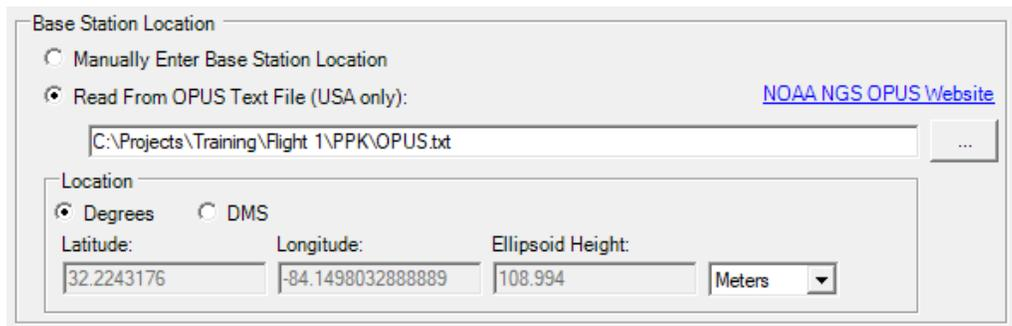

Figure 30 – Base Position
- Manually enter the Base Station location or import the OPUS text file. (Figure 30) *Note: There is a new function in ASPSuite for managing multiple base station positions. For more information regarding this, see: Base Station Manager in ASPSuite.*